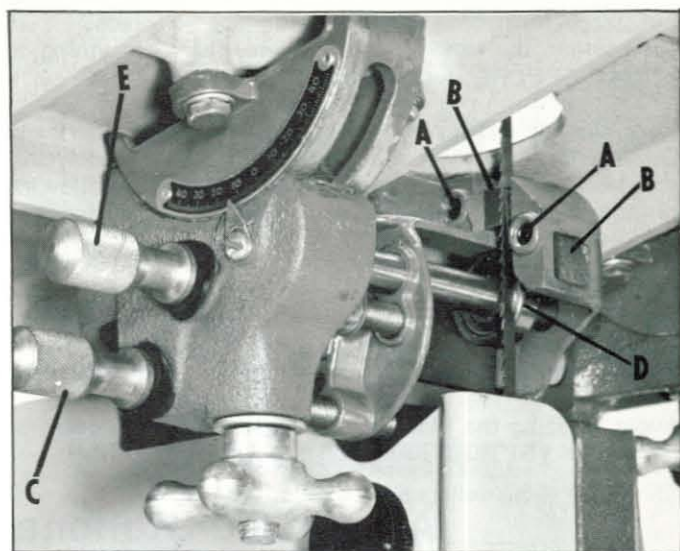

Fig. 21
1. Loosen the two screws (A) Fig. 21, and move the guides (B) as close as possible to the side of the blade, being careful not to pinch the blade. Then tighten screws (A).
2. The front edge of the guide blocks (B) should be adjusted so they are just behind the "gullets" of the saw teeth by turning the knurled knob (C) Fig. 21.
3. The lower blade support bearing (D) Fig. 21, should be adjusted so it is about 1/64" behind the back of the blade by turning the knurled knob (E).